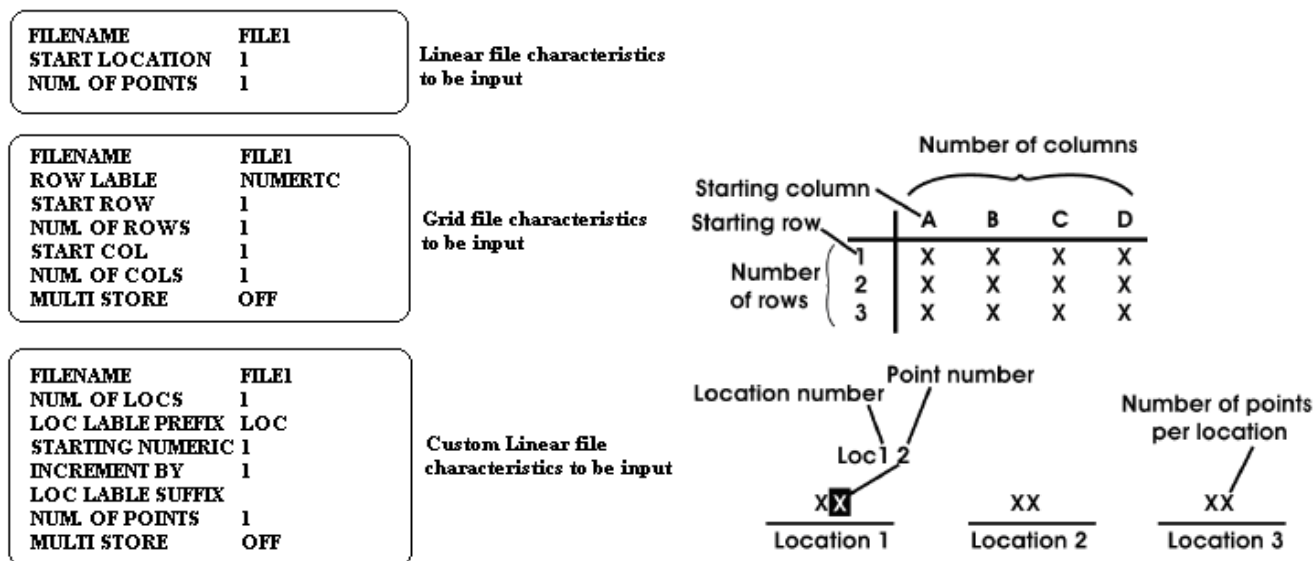

FIGURE 6-1—After selecting file type (LINEAR, GRID, or CUSTOM LINEAR) you must specify the applicable group of file characteristics.
Step 6: Set characteristics as shown in Figure 6-1.